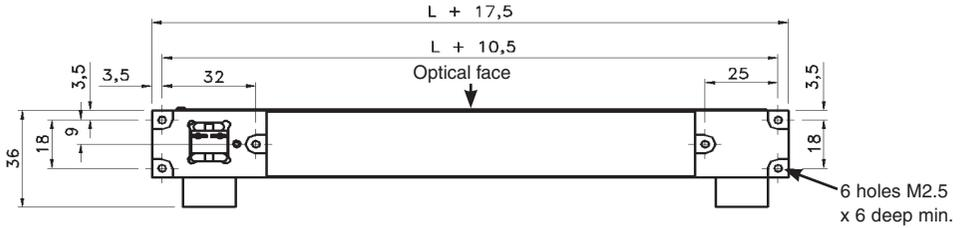

Figure 2: fixing holes for mirror of total length L ($L < 350$ mm): all dimensions in mm
- The motion stage must provide fixing holes to accept the mirror mounts. These should be machined according to Figure 2 overleaf.